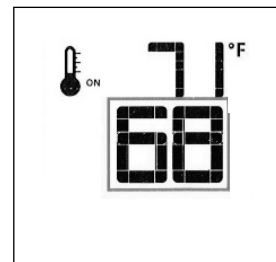

Figure 8.18. Change Set Temperature.
- To adjust the Set Temperature, press the Up or Down Arrow Keys until the desired Set Temperature is displayed. Fig. 8.18.